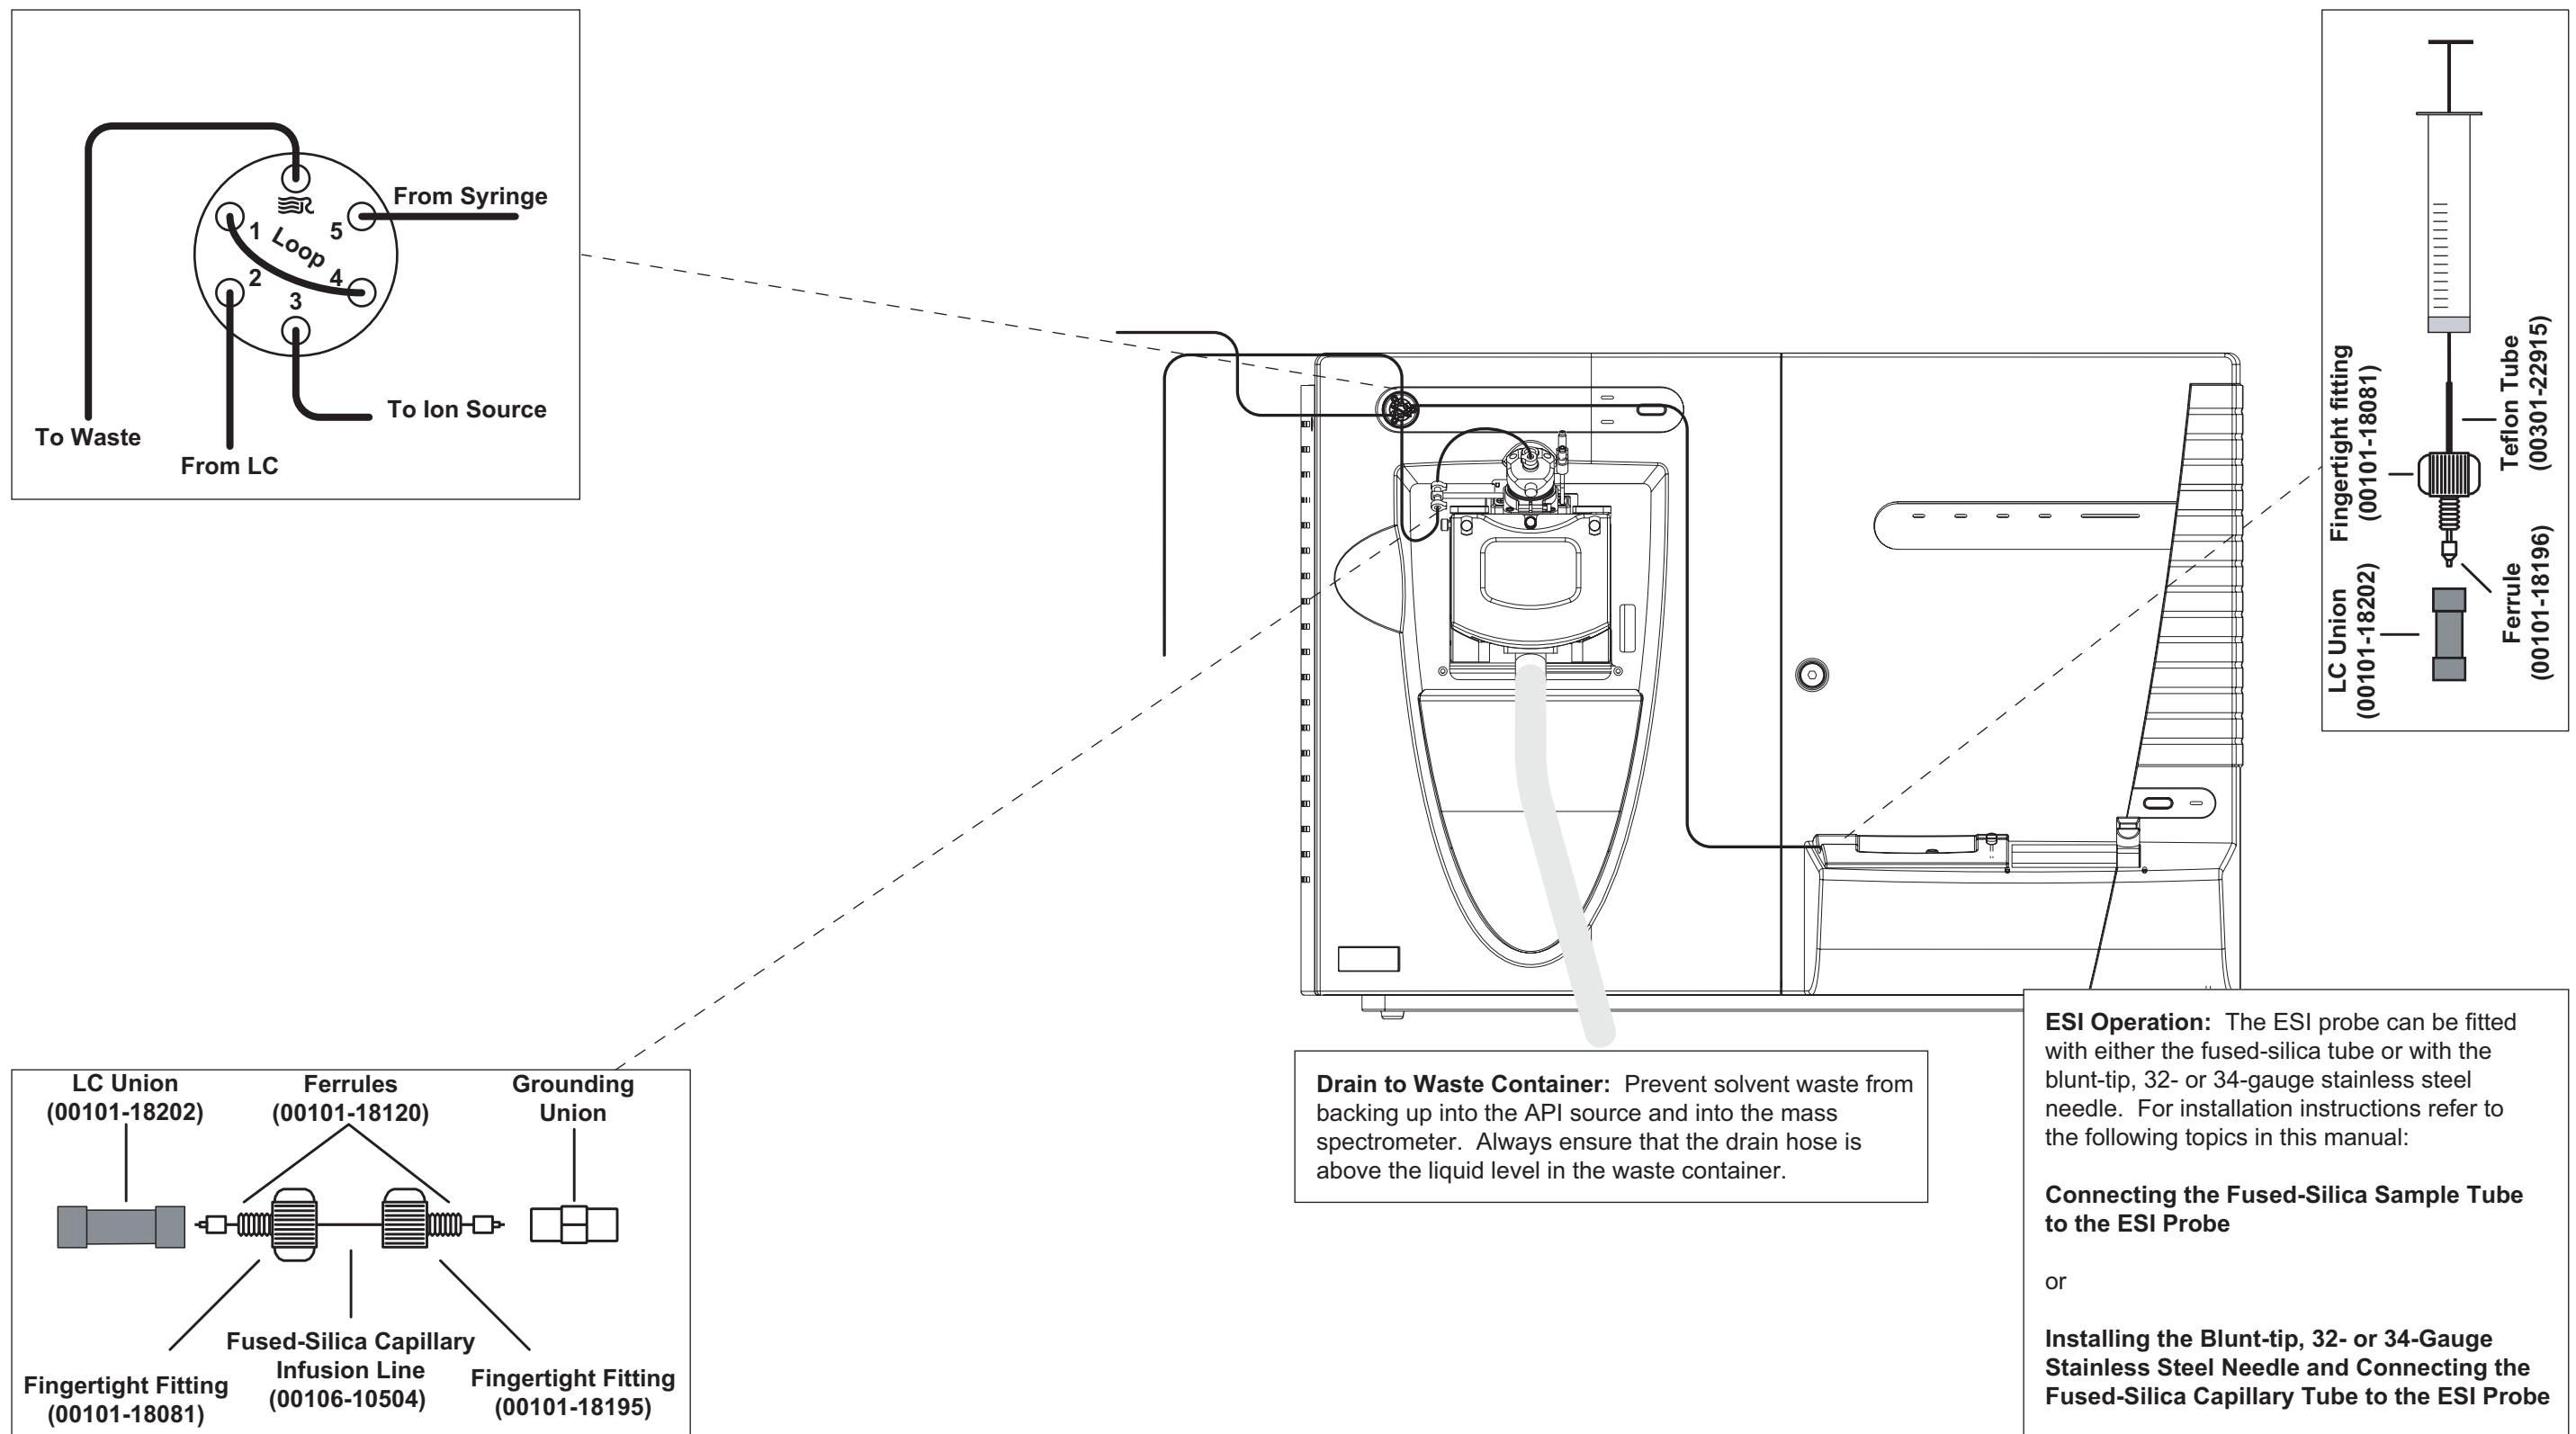

Figure 11-5. Plumbing diagram showing ESI/MS sample introduction by loop injection into the solvent flow from an LC
- Figure 11-5. Plumbing diagram showing ESI/MS sample introduction by loop injection into the solvent flow from an LC